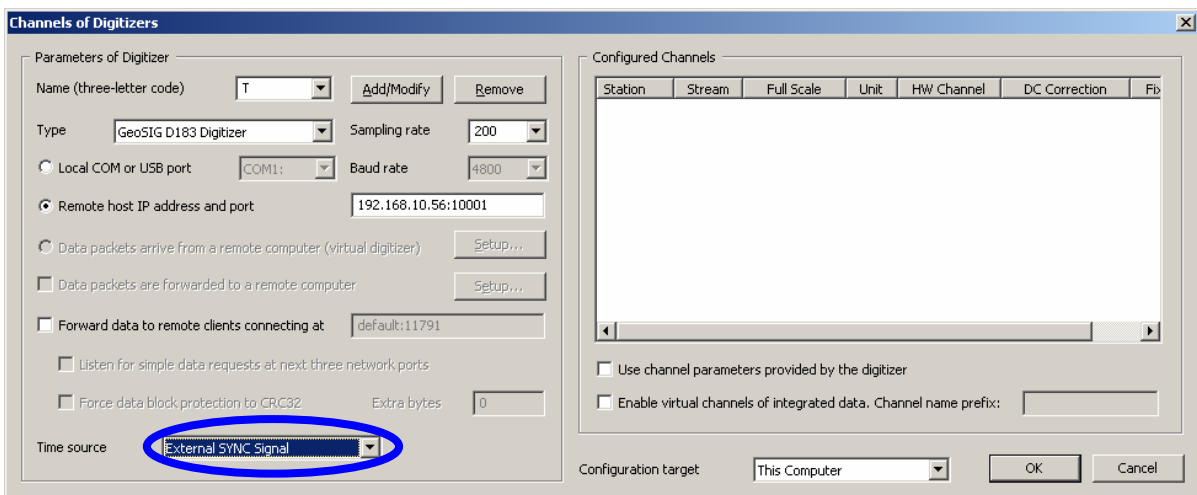

Figure 17. Set ‘External SYNC Signal’ as Time source
- While adding the CR-5P under “Channels of Digitizers”, make sure ‘External SYNC Signal’ is selected as Time source, as shown in Figure 17.